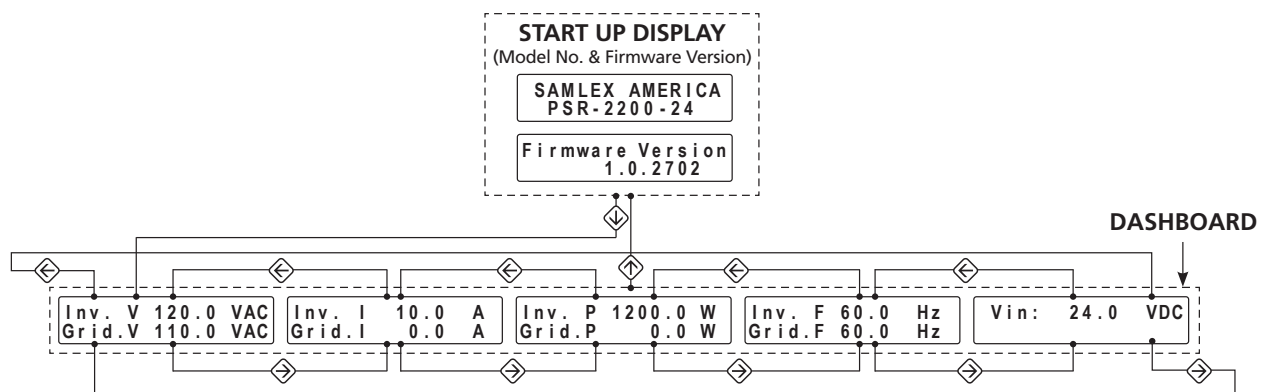
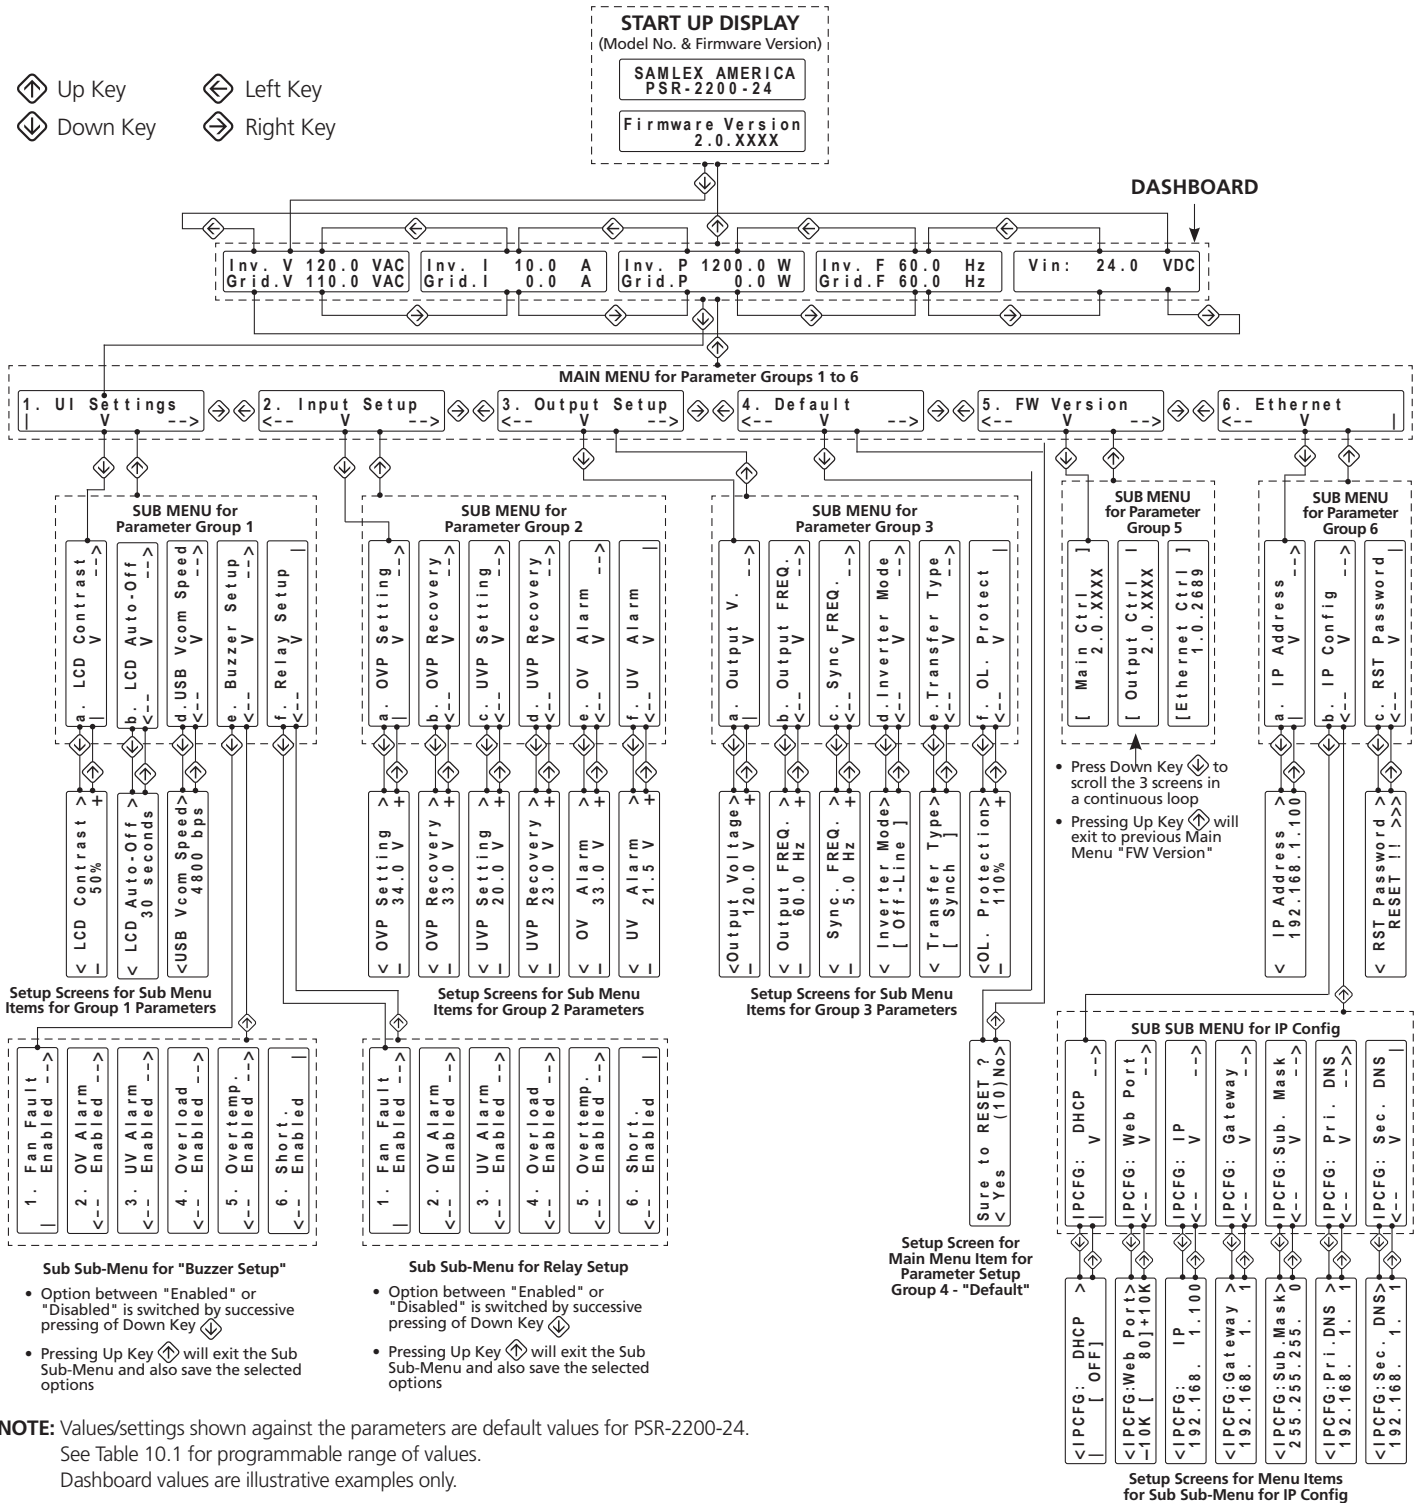

Fig 9.1: Startup Display and Dashboard (extract from Fig 10.1)
Fig 10.1 Menu Map for Programmable Operating Parameters
Refer to Startup Display and Dashboard portions of the Menu Map at Fig 10.1 (extract of these portions is given below at Fig 9.1 for ready reference. The "Startup Display" screens appear when the unit is switched ON (see Section 9.6 for details). The "Dashboard" shows the 5 scrollable screens that provide information on the operating parameters (see Sections 9.7 for details).
**9.5.1.1 LCD Auto-Off:** Programmable parameter "LCD Auto-Off" has been provided to either keep the LCD display on all the time or to switch off the display after expiry of programmable time period of 20 to 180 sec. For programming details, see Fig 10.1 / Table 10.1 under Main Menu for Parameter Group 1 – "UI Settings" / Sub Menu for Parameter Group 1, Parameter (a) – "LCD Contrast" (Section 10.2.1.1). In the default condition, the LCD Auto-Off function has been disabled and hence, the LCD screen will remain in on condition all the time.
**9.5.1.2 LCD Contrast:** This parameter can be programmed to control the LCD contrast. Programmable range is 0% to 100%. Default is 50%. For programming details, see Fig 10.1 / Table 10.1 under Main Menu for Parameter Group 1 – "UI Setting" / Sub Menu for Parameter Group 1, Parameter (b) – "Auto-off" (Section 10.2.1.2).
9.5.1.3 Various LCD Screens are available under Startup display and Dashboard for real time visual monitoring of important operating parameters. Refer to the Startup Display and Dashboard portions of the Menu Map at Fig 10.1. Details of LCD display of the operating parameters are explained in the succeeding Sections.
Refer to Startup Display portion of the screens at Fig 9.1 (extracted from Fig 10.1).
Refer to the Dashboard portion of the screens at Fig 9.1 (extracted from Fig 10.1).
The values / settings of various operating parameters can be programmed to suit specific application requirements. Refer to the Menu Map at Fig 10.1 to navigate to the setting screen of the desired parameter. Specifications of the parameters shown in the Menu Map are detailed in Table 10.1.
## 10.2 SPECIFICATIONS OF PROGRAMMABLE PARAMETERS IN THE MENU MAP AT FIG 10.1
Table 10.1 provides list of programmable parameters shown in the Menu Map at Fig 10.1 along with their specifications i.e. their programmable ranges, setup options and default values.
TABLE 10.1 PROGRAMMABLE PARAMETERS (REFER TO MENU MAP AT FIG 10.1)
**TABLE 10.1 PROGRAMMABLE PARAMETERS (REFER TO MENU MAP AT FIG 10.1) (Continued)**
## 10.2 DETAILS OF PROGRAMMABLE PARAMETERS LISTED IN TABLE 10.1 AND IN FIG 10.1
Table 10.1 provides list of programmable parameters, their programmable ranges, setup options and default values. Menu Map at Fig 10.1 shows the path to navigate to the setting screen of the desired parameter. Details of parameters are given in the succeeding Sub-Sections.